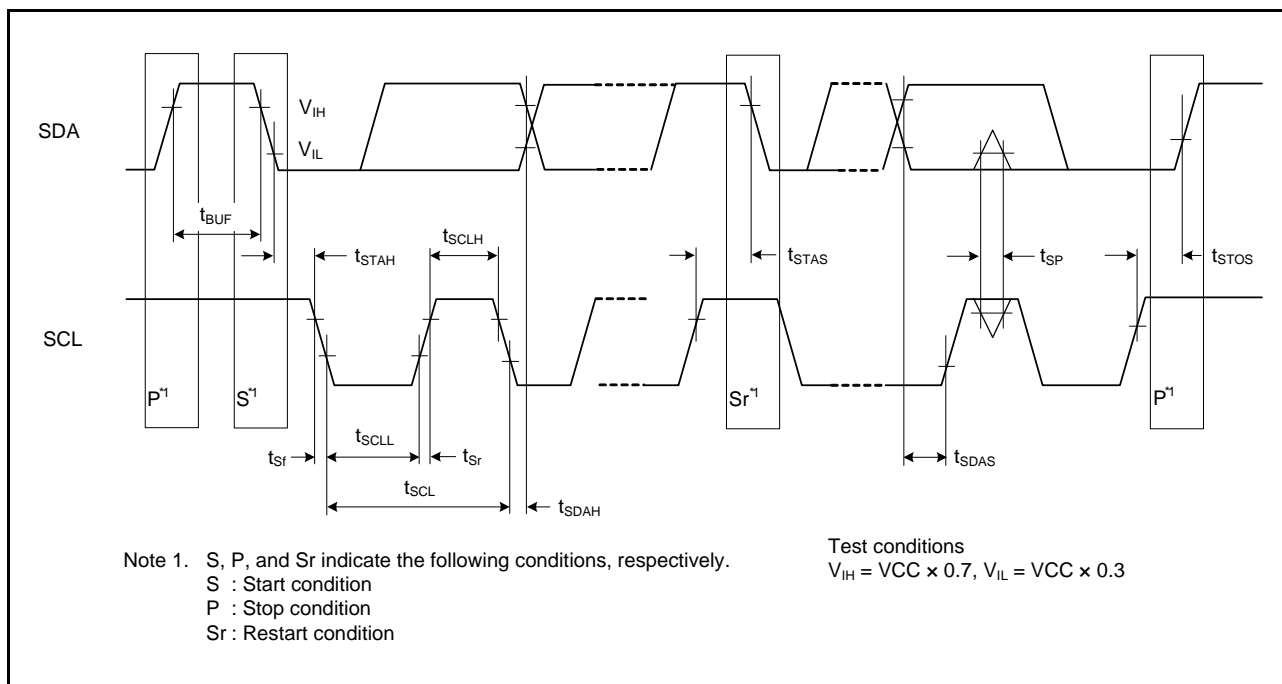

Figure 5.48 RIIC Bus Interface Input/Output Timing and Simple IIC Bus Interface Input/Output Timing
| RIIC (Standard mode, SMBus) | SCL input cycle time | t_{SCL} | $6 (12) \times t_{IICcyc} + 1300$ | — | ns | Figure 5.48 |
| RIIC (Fast mode) | SCL input cycle time | t_{SCL} | $6 (12) \times t_{IICcyc} + 600$ | — | ns | Figure 5.48 |
| Simple IIC (Standard mode) | SDA input rise time | t_{Sr} | — | 1000 | ns | Figure 5.48 |
| Simple IIC (Fast mode) | SCL, SDA input rise time | t_{Sr} | $20 + 0.1C_b$ | 300 | ns | Figure 5.48 |